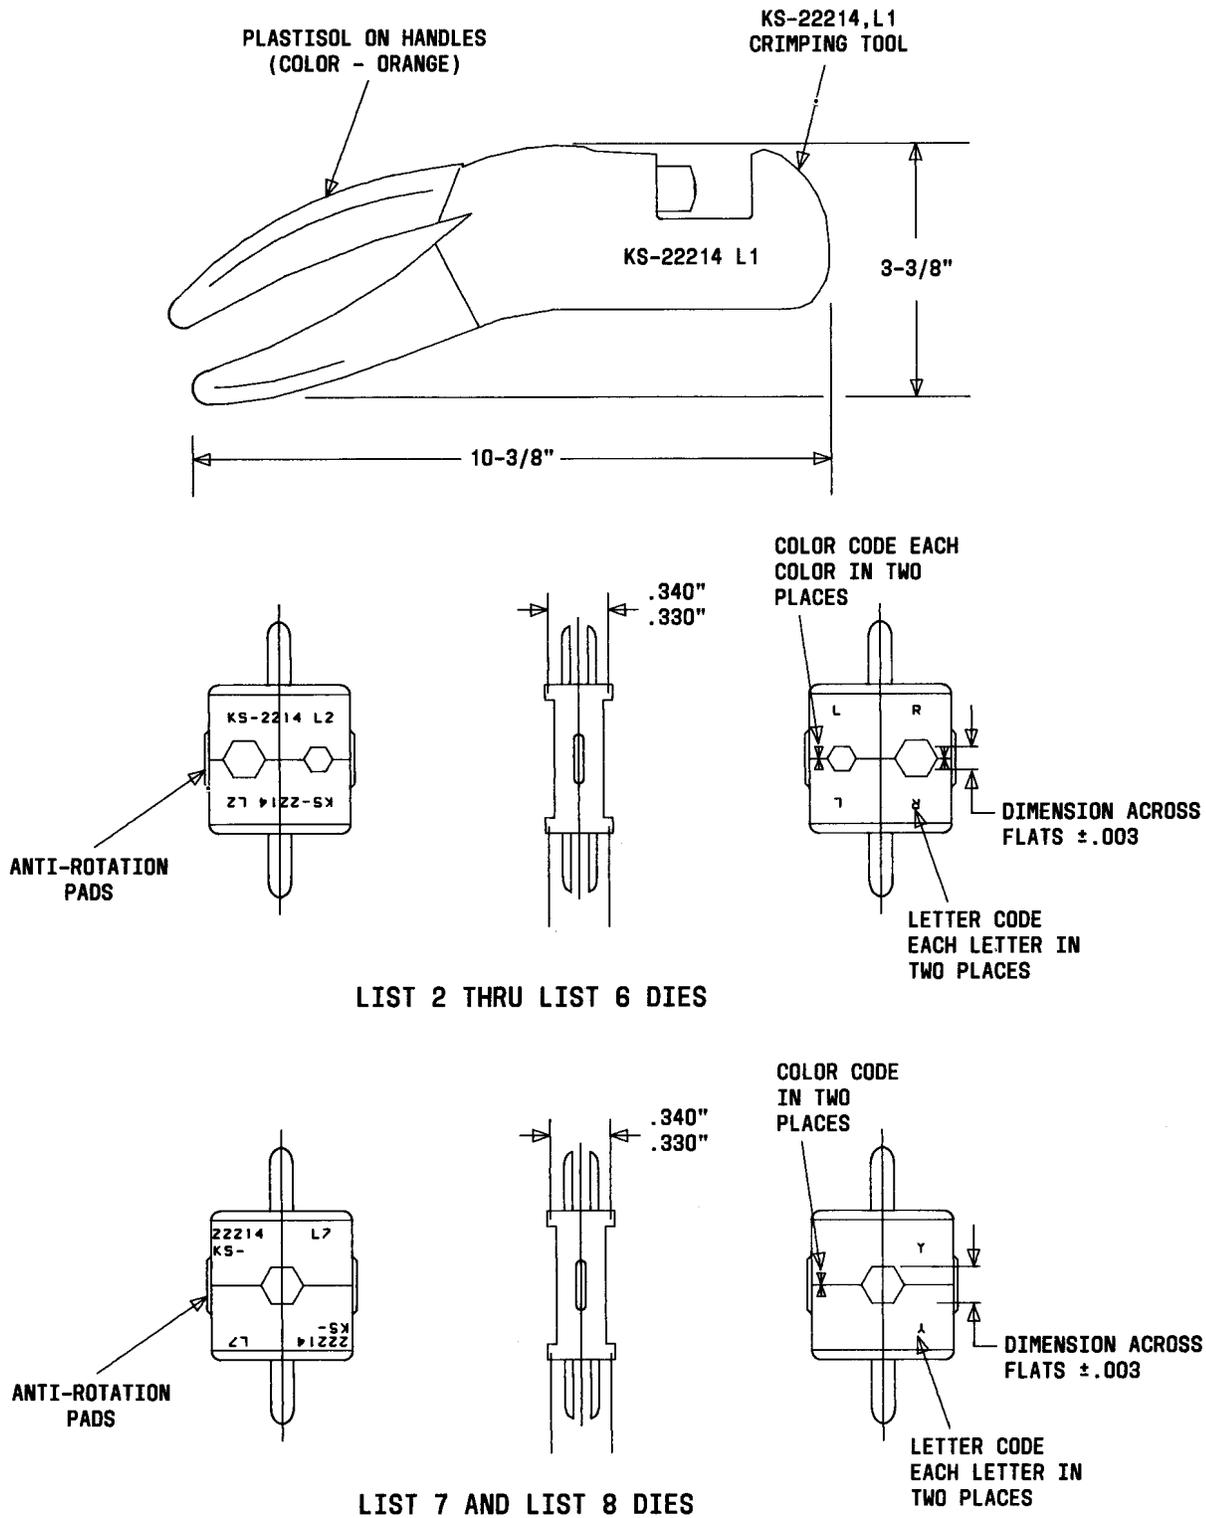

Fig. 2—KS-22214 Crimping Tool Kit
2.04 **KS-22214:** The KS-22214 crimping tool kit (Fig. 2) consists of a KS-22214, L1, crimping tool; KS-22214, L2 through L8, dies (Table A); KS-22214, L9, label; and KS-22214, L10, case. The L1 is a hand-operated pliers-type crimping tool equipped with a ratchet and pawl mechanism, for use with the KS-15711 and KS-15712 shield connectors when terminating wire or cable shields. The L9 is a label containing instructions and die information. The L10 is a case with compartments for L1 tool, L2 through L8 dies, and L9 label.